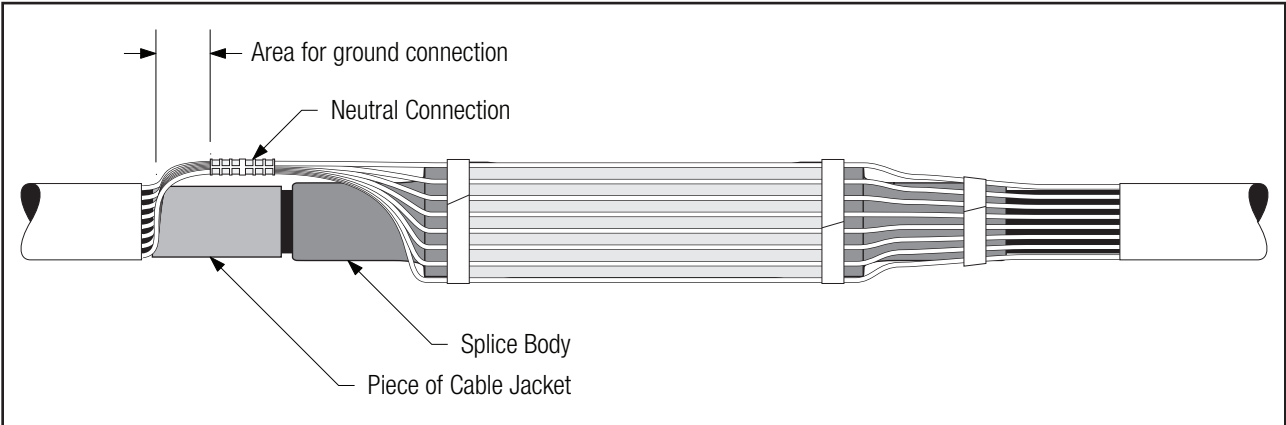

Figure 20
- 5.2.2 Use a piece of cable jacket, removed during cable preparation, to cover and protect exposed cable semi-con under the area where the neutral and/or ground connection will be made. Secure with tape. Ensure that the cable jacket piece does not touch the splice body (*Figure 20*).
- 5.2.3 Connect neutrals using a suitable compression connector ("INLINE", "C", or "H" type) between jacket end and reduced splice diameter. Keep connector profile as low as possible. Crimp connector following the connector manufacturer's recommendation (*Figure 20*).